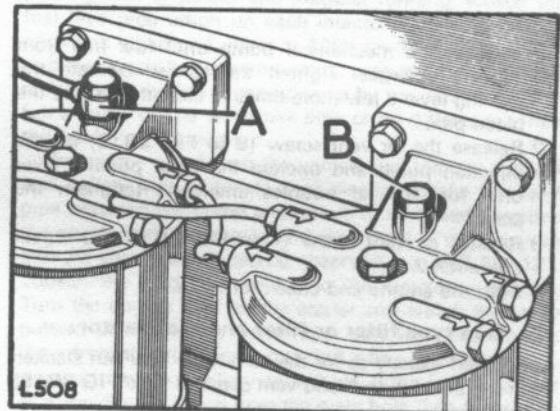

FIG 3B:8 Filter air vent
- 1 Slacken the air vent screw (B in FIG 3B:8), on the top of the engine filter then operate the hand priming
Key to FIG 3B:8